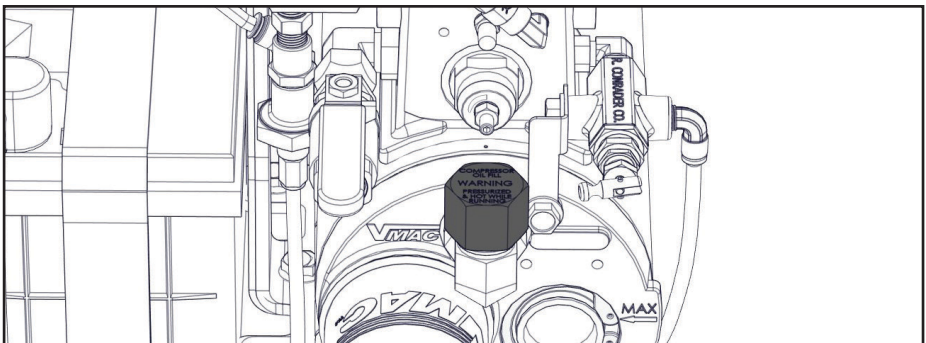

Figure 42 — Compressor oil fill
- ☐ Remove the filler cap on the WHASP Tank. Fill the WHASP Tank with VMAc compressor oil until it reaches the "MAX" mark. The air compressor system holds approximately 4 L (1 USG) of oil (Figure 42).